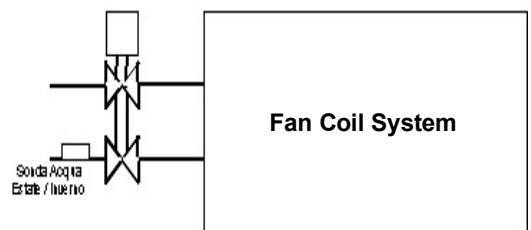

Fig. 7 Position of the Summer / Winter water sensor
1. **Water Temperature sensor for automatic Summer/Winter switching:** Position the sensor upstream from the valve as shown in Fig. 7.
2. **Water Temperature sensor for automatic Summer/Winter switching and fan start consent:** Position the sensor as shown in Fig. 7.